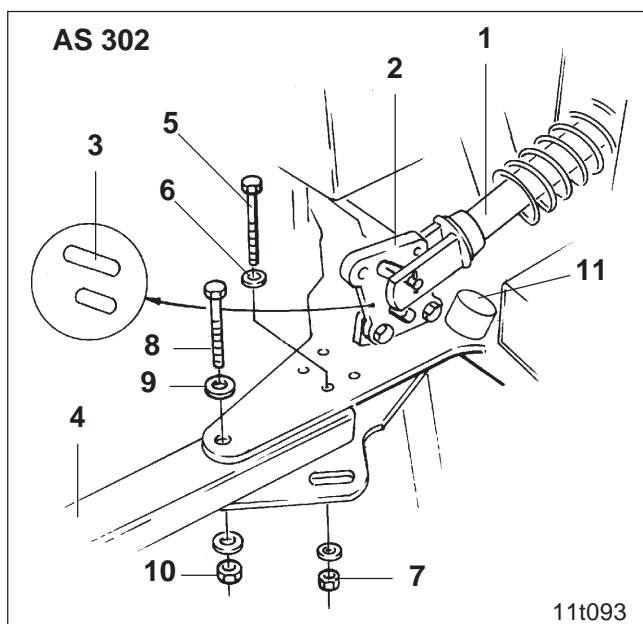
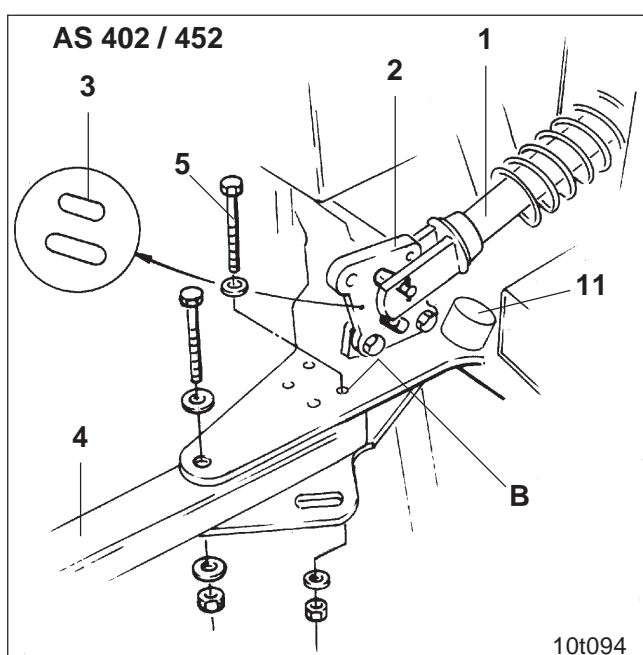
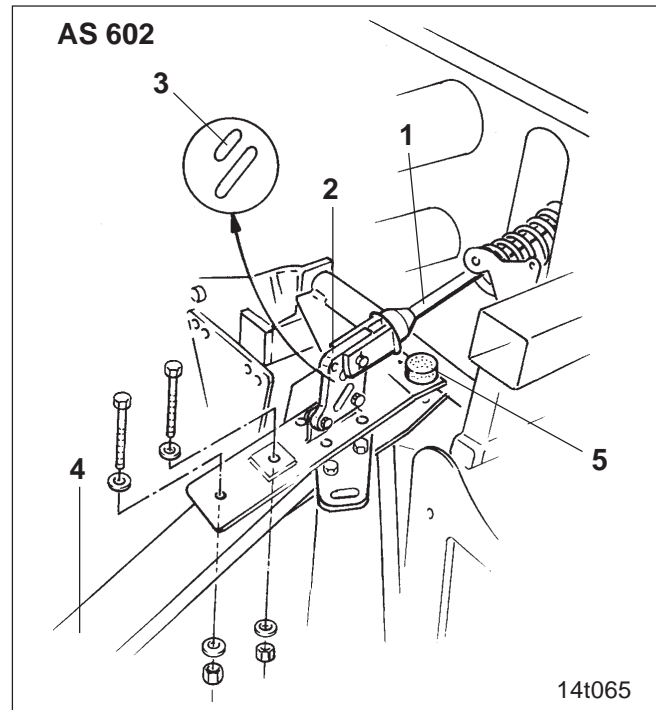

Fig. 24.5
Fig. 24.6
Fig. 24.7
The hydraulic ram (Fig. 24.5/1) has to be fitted to the bracket (Fig. 24.5/2) in the longer slotted hole (Fig. 24.5/3). If necessary, bolt the bracket (Fig. 24.5/2) into another hole.
Bolt marker arms (Fig. 24.5/4) by:
- a hex bolt M6 x 90, 8.8 DIN 931 (Fig. 24.5/5),
- two washers 6,4 x 18 x 1,6 DIN 9021 (Fig. 24.5/6) and
- one securing nut M6, 8 DIN 980V (Fig. 24.5/7).
- one hex. bolt M14 x 100, 8.8 DIN 931 (Fig. 24.5/8),
- two spring washers 14 DIN 6796 (Fig. 24.5/9) and
- one securing nut M14, 8 DIN 980V (Fig. 24.5/10).
The hydraulic ram (Fig. 24.6/1) has to be fitted to the bracket (Fig. 24.6/2) in the short slotted hole (Fig. 24.6/3). If necessary, bolt the bracket (Fig. 24.6/2) into another hole.
Bolt on track marker arm (Fig. 24.6/4) (for fixing material to be used, please refer to description for 3 m working width).
Bolt track marker arm (Fig. 24.6/4) with hex. bolt M6 x 90, 8.8 DIN 931 (Fig. 24.6/5) into hole "B" (Fig. 24.6).
The hydraulic ram (Fig. 24.7/1) has to be fitted to the bracket (Fig. 24.7/2) in the short slotted hole (Fig. 24.7/3). If necessary, bolt the bracket (Fig. 24.7/2) into another hole.
Bolt on track marker arm (Fig. 24.7/4)) (for fixing material to be used, please refer to description for 3 m working width).
The buffer blocks (Fig. 24.5/11, Fig. 24.6/11 respectively Fig. 24.7/5) must never be removed and must be replaced in case of wear!